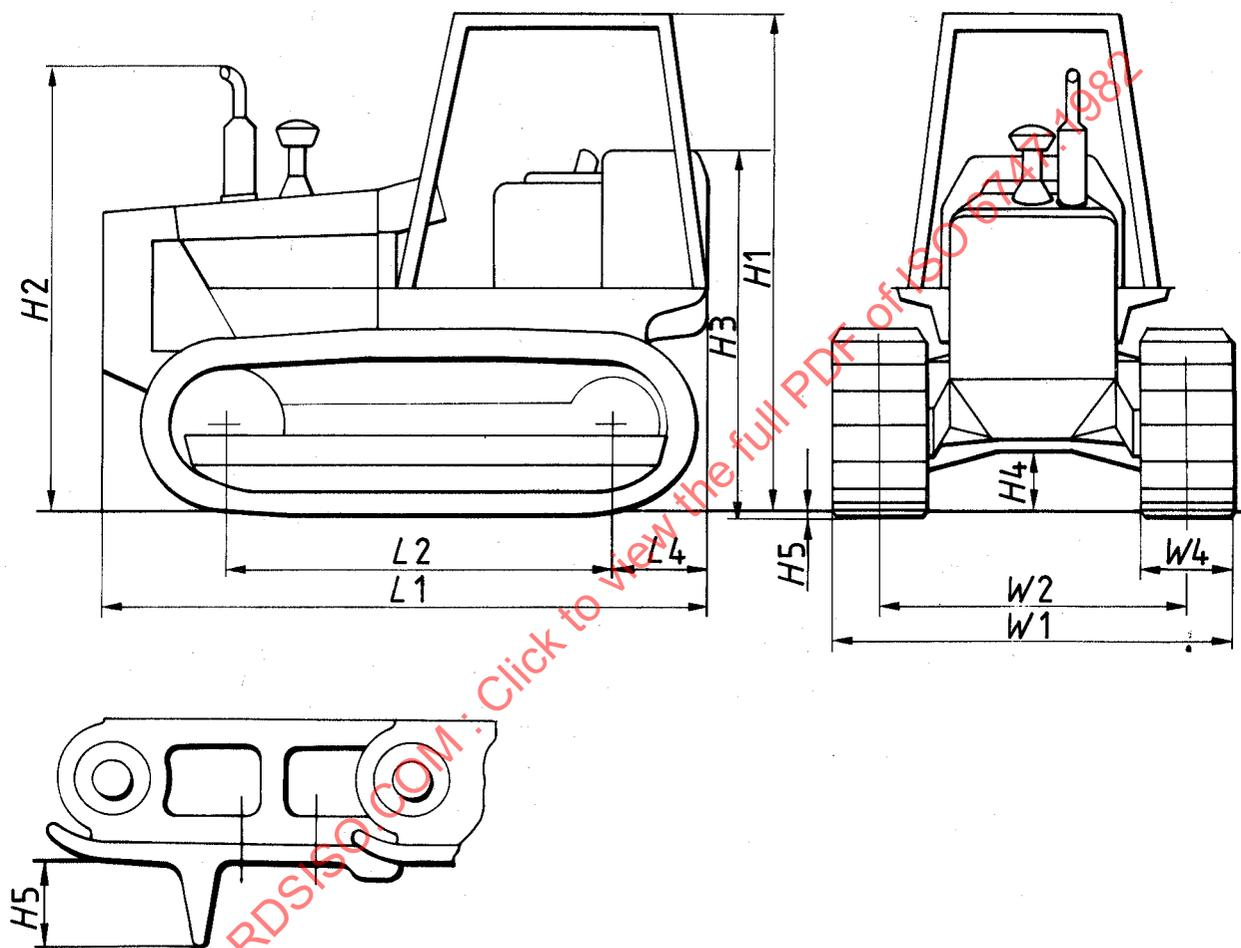

Figure 6 — Dimensions of base machine (crawler tractor)
5.2 Dimensions (see figures 6 and 7)